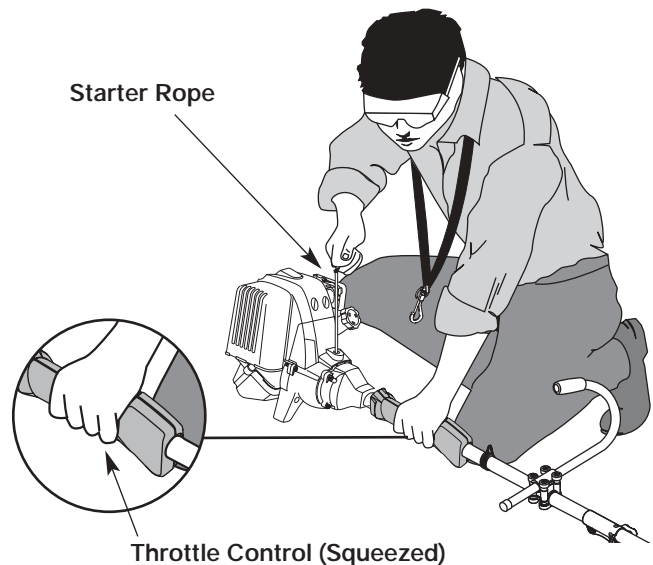

Fig. 22
**WARNING:** Avoid accidental starting. Make sure you are in the starting position when pulling the starter rope (Fig. 22). To avoid serious injury, the operator and unit must be in a stable position while starting. To avoid serious personal injury, ensure any Add-On being used is installed correctly and secure before starting the unit.
6. Crouch in the starting position (Fig. 22) and squeeze the throttle control (BL26BC: squeeze the throttle lock-out). Pull the starter rope briskly 5 times.